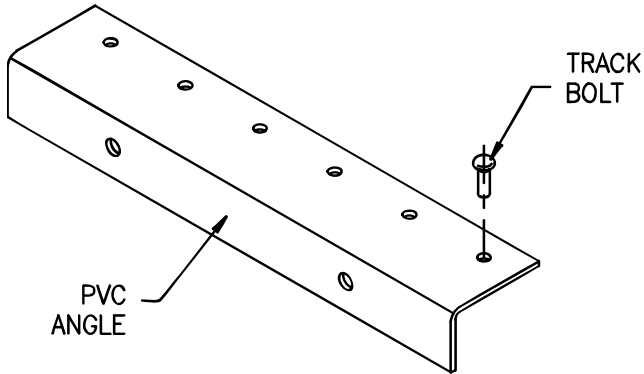

FIG. 1
- a. Insert track bolts into PVC angle holes (Fig. 1).